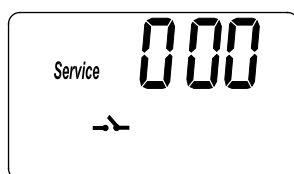
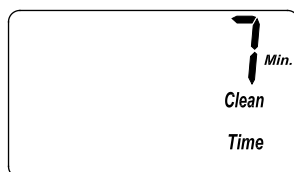
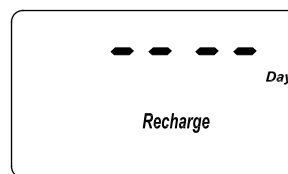

FIG. 27
FIG. 29
FIG. 30
1. Press and hold the PROGRAM button until the screen in Figure 27 is displayed. Once in this display, press the PROGRAM button twice and one of the two displays in Figure 28 is shown.
1. Press and hold the PROGRAM button until the screen in Figure 27 is displayed. Once in this display, press the PROGRAM button three times and the display in Figure 29 is shown.
1. Press and hold the PROGRAM button until the screen in Figure 27 is displayed. Once in this display, press the PROGRAM button four times and the display in Figure 30 is shown.
1. Press and hold the PROGRAM button until the screen in Figure 27 is displayed. Once in this display, press the PROGRAM button five times and one of the two displays in Figure 31 is shown.